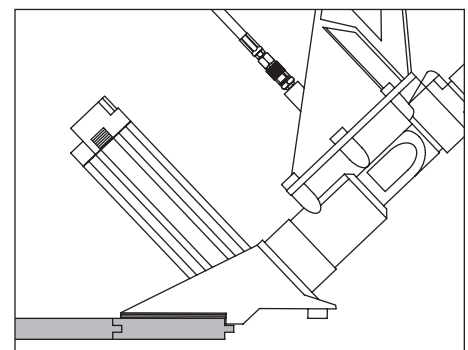

Figure 22 - Rest shoe plate on floor board
3. Place the tool on the floor (see Figure 22) with the shoe plate resting on the racked floor board. Make sure the fastener ejection nozzle is firmly placed against the board tongue.